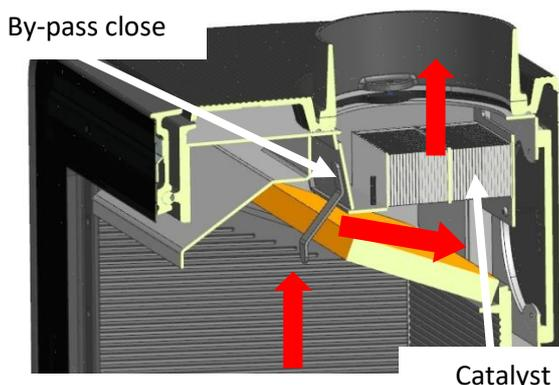

Fig. 21
- When the fire is well established, slide the Burn Type Lever to the top for normal operation with wood ("A"). Then adjust the Burn Rate Knob to the desired heat output, either manually or with the remote control. Close the by-pass of the TruHybrid System, to allow the flue gases pass through the catalyst (Fig. 21) to achieve the maximum efficiency of the stove. **Protect your hands for such operation.**